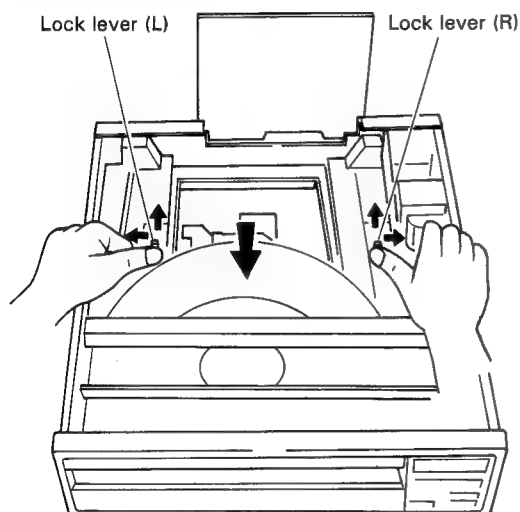

Fig. 7-8
7.5 HOW TO CLAMP THE DISC WHEN THE DISC TABLE IS REMOVED (Fig. 7-8)
- ① Insert the disc from the rear and place it on the turntable.